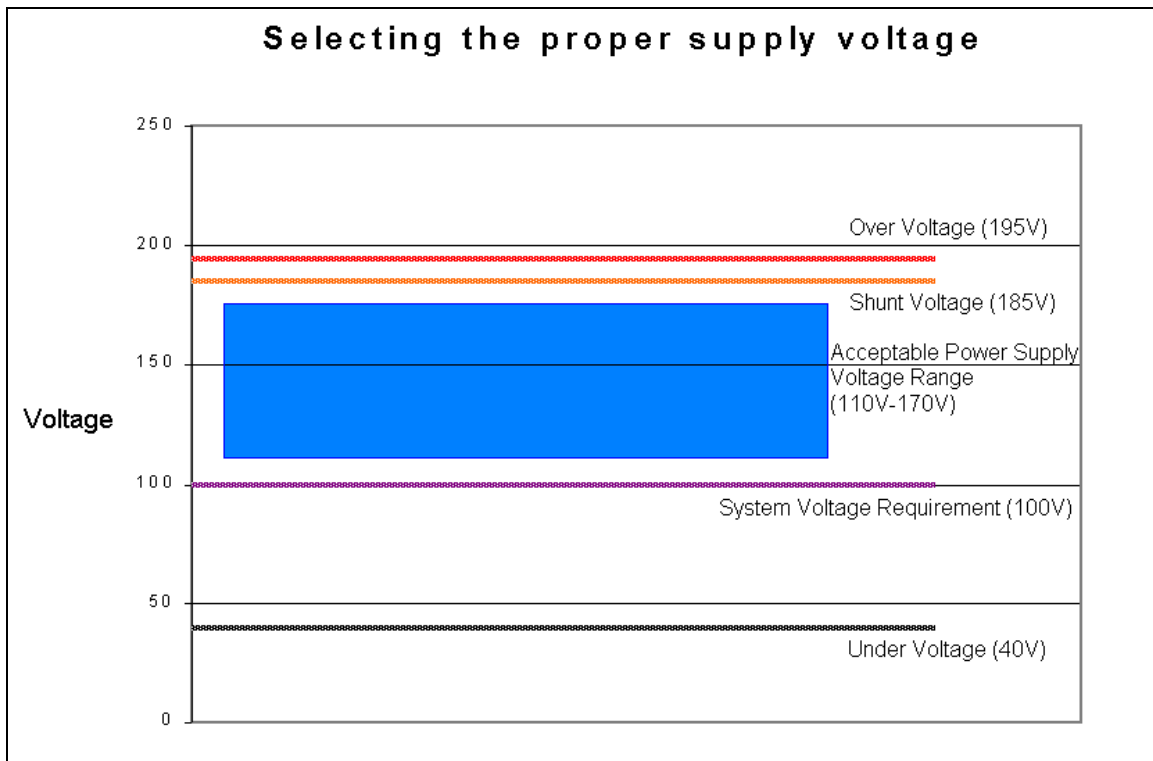

Figure 1.1. In this case the acceptable power supply voltage is between 110V and 170V.
**Over Voltage** – The over voltage level on Advanced Motion Controls amplifiers can be found in the amplifier data sheet. In the example from Figure 1.1, the data sheet for the B25A20 amplifier states that the over voltage shut down point is 195V.
**Shunt Regulator Voltage** – From figure 1.1 an SRST185 was chosen with a 185V shunt voltage. The purpose of a shunt regulator is to clamp the power supply voltage so it doesn't exceed the amplifier over voltage levels during regeneration. See section 3 (Regeneration) to determine if a shunt regulator is required and how to select the correct voltage.
**Under Voltage Limit** – the under voltage level on Advanced Motion Controls amplifiers can be found in the amplifier data sheet. In the example from Figure 1.1. the data sheet for the B25A20 amplifier states that the under voltage shut down point is 40V.